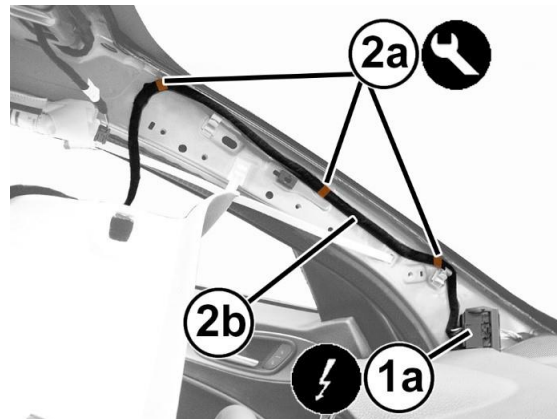

Figure 22 – Electrical Wiring
50. Working on the front left A-pillar, disconnect the electrical connector (1a) joining the roof wiring (Figure 22).
51. Release the retainers (2a) of the wiring (2b), using a trim stick C-4829A (1823015000) or equivalent (Figure 22).
11. Working on the left front pillar, connect the electrical connection joining the roof wiring and engage the wiring retainers (Figure 22).